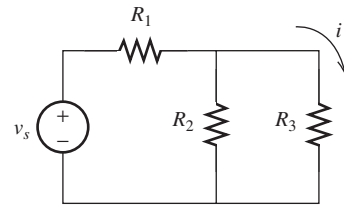

FIGURE P2.43 Circuit for Problem 2.43.
2.43 (H) Find an expression for i in Figure P2.43.